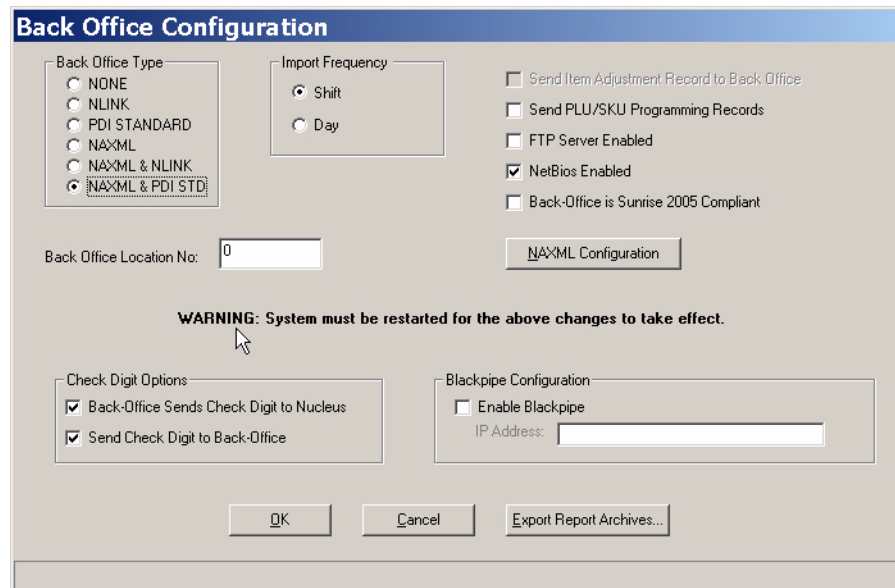

Figure 7-60 Back Office Configuration Window
1. Select the **Back Office Type** from the menu. NLINK should be selected for all vendors except PDI and ACES. See Figure 7-60.